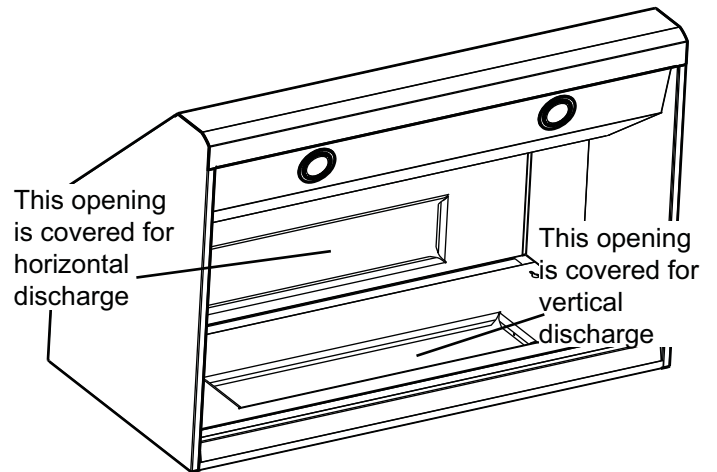

Figure 2: Discharge Direction
The hood is shipped ready for vertical discharge. To change to horizontal discharge, move the discharge cover shown in *Figure 2* to the top of the hood. The plate is held in place by (4) screws.